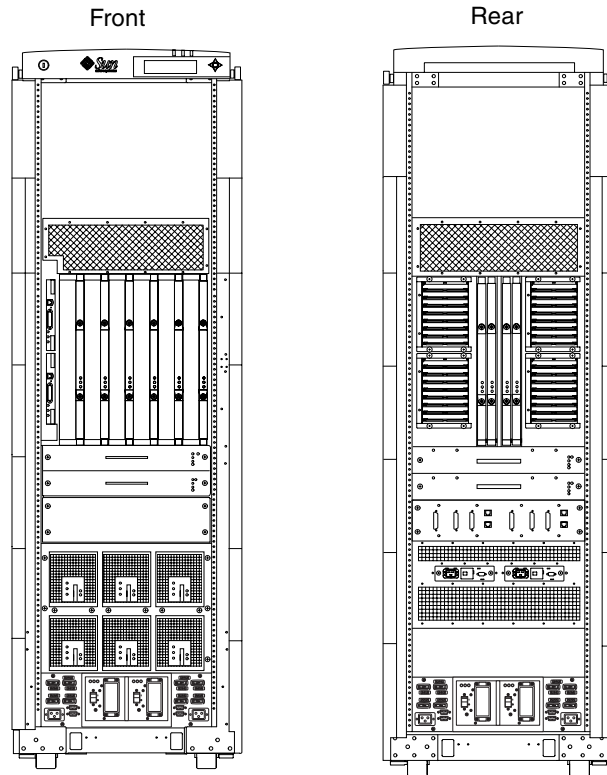

FIGURE 2-1 Sun Fire 6800 System
- FIGURE 2-1 Sun Fire 6800 System 2-2